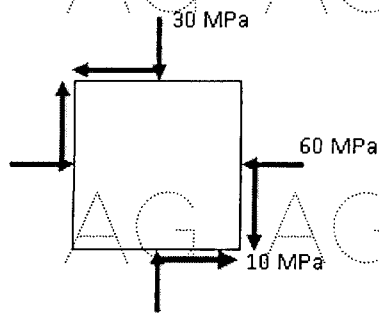

Figure 7
10. The state of stress at a point of a loaded member is shown in Figure 7, using the Mohr's circle of stresses, determine the